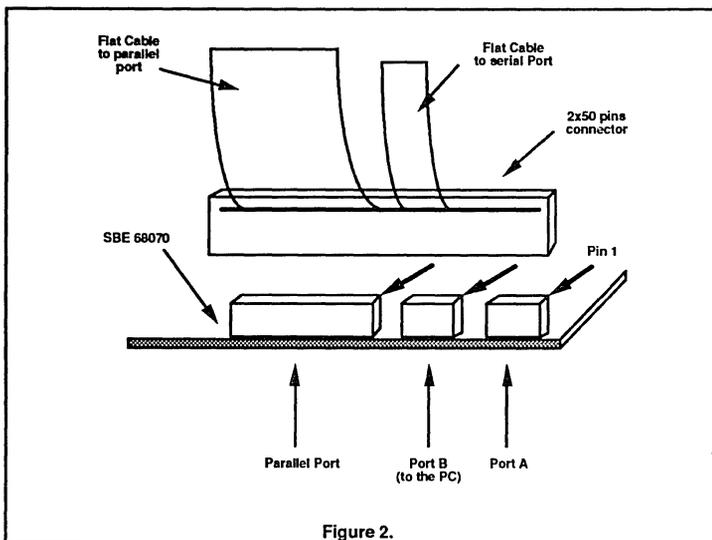

Figure 2.
– The cable between the PC and the SBE is a wire to wire connection. If you are using the SBE 68070 version 1, it is not possible to plug the connectors for the serial line and the parallel port at the same time. The solution is to use a 2x50 pin connector for flat cable and connect both cables on this connector. (See Figure 2.)